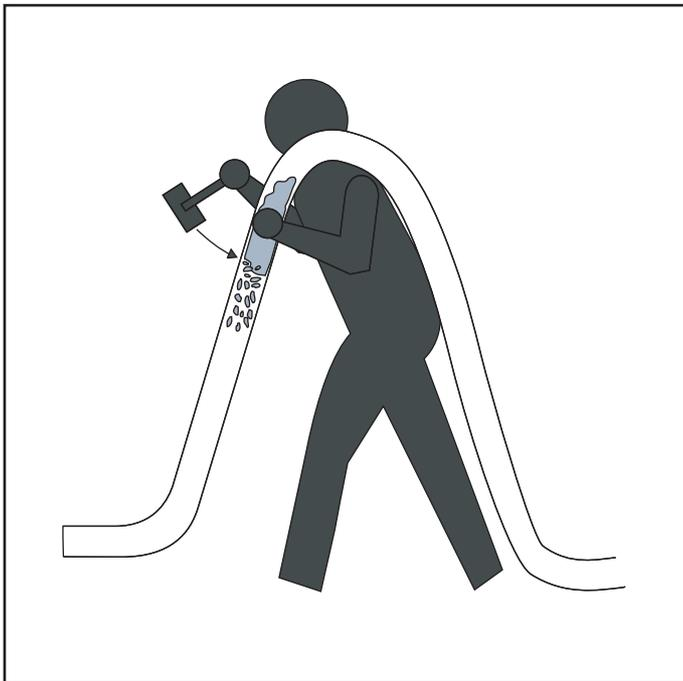

FIG.5-3A
- Place the hose vertically (backing over the shoulder) to evacuate its contents (FIG.5-3A).